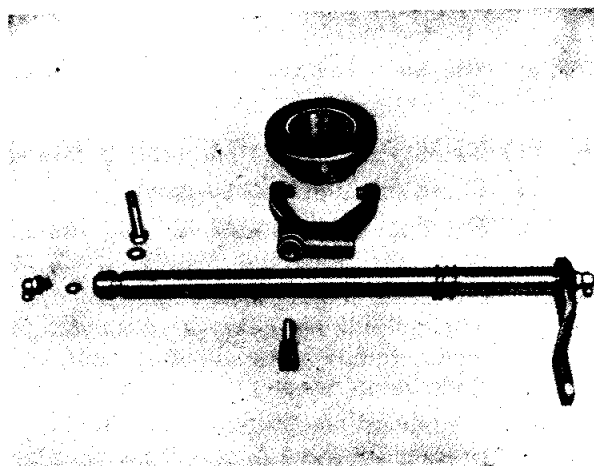

Fig. 5 The Clutch Operating Shaft Assembly.
22. TO REMOVE RELEASE BEARING AND CLUTCH OPERATING SHAFT (Fig. 5)